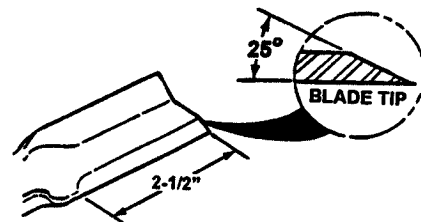

FIGURE 36
5. If Blade is in good condition but cutting edge is dull, sharpen at a 25 degree angle as shown in Figure 36.
1. Sharpen the 2-1/2" cutting edges on standard mower Blades at a 25° angle. See Figure 36.